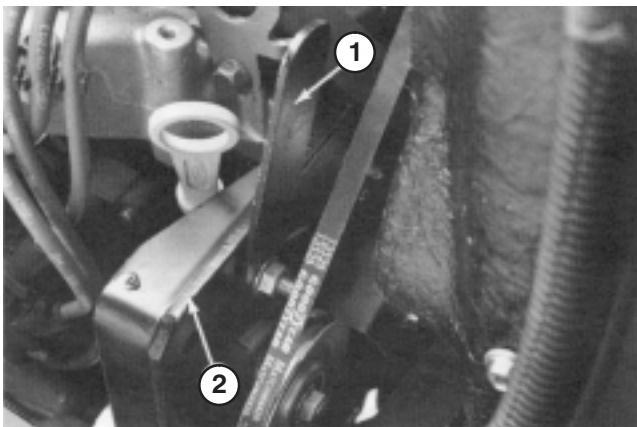

Figure 34
1. To adjust belt tension, loosen upper and lower nuts securing idler arm to front engine mount (Fig. 34).